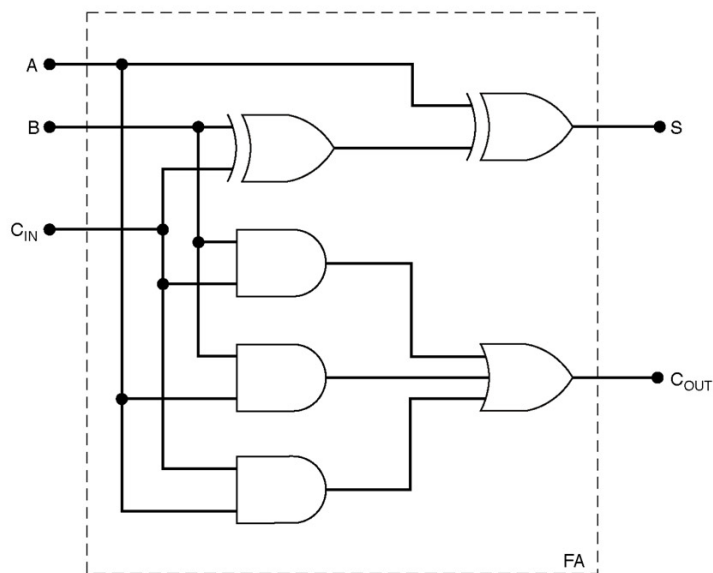

Figure 5: A Full Adder circuit (do not implement this)
5.3.1 Figure 5 shows a full adder circuit based on the following logic expressions: